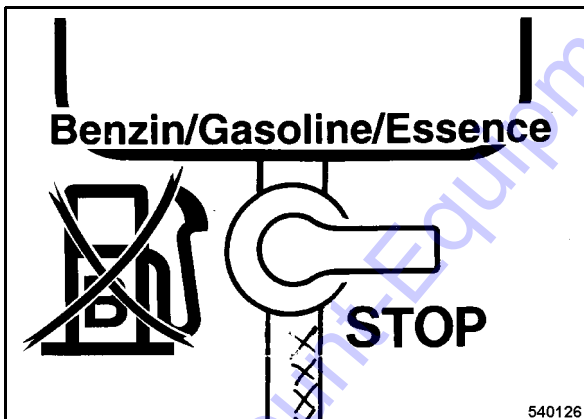

Fig. 31
- Set the fuel valve (Fig. 31) to "STOP" position (closed).